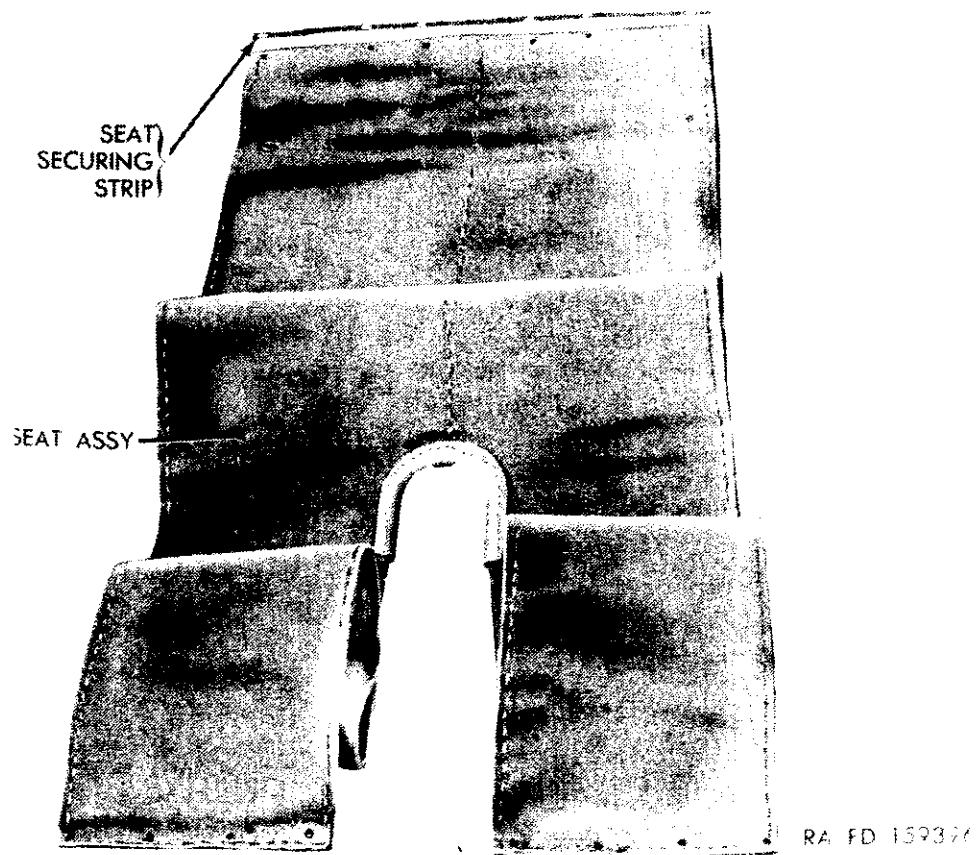
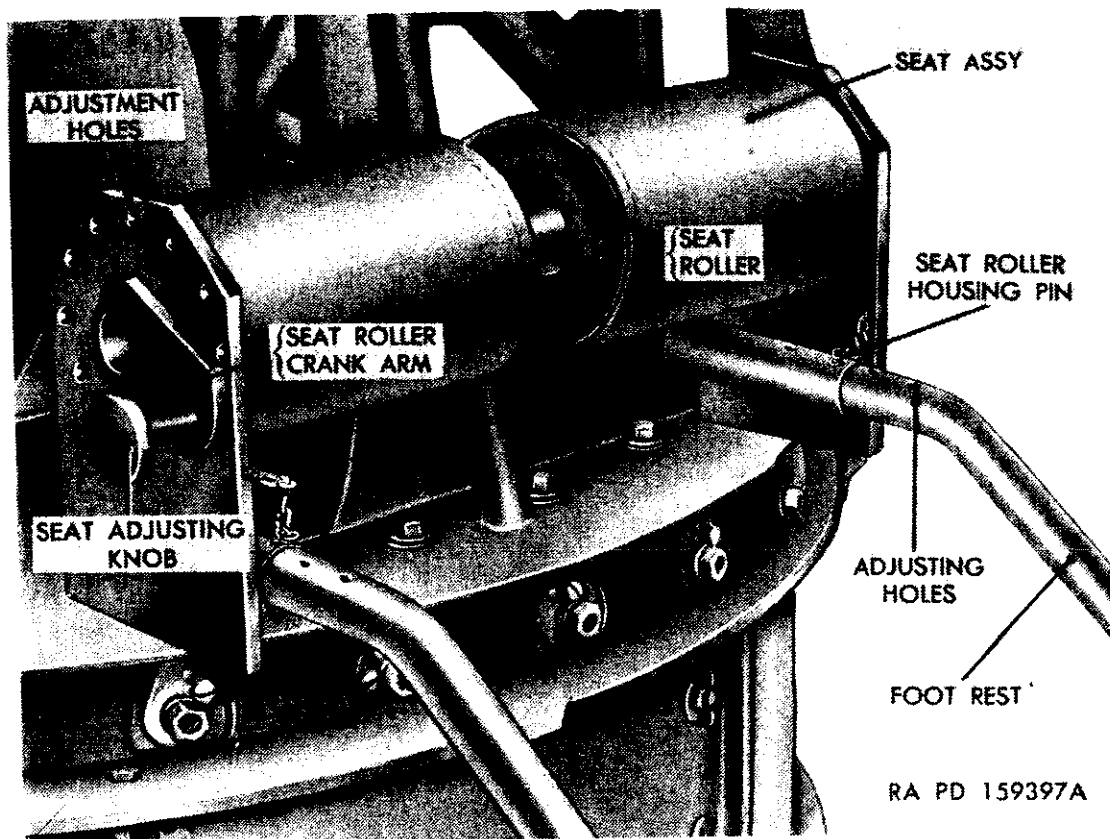

Figure 68. Seat assembly.
Figure 69. Seat and foot rest adjustments.
*a. Seat and Seat Roller Group.* Inspect seat assembly (fig. 68) for tears and general condition and replace if necessary. Adjust seat assembly (fig. 69) as follows:
- (1) Pull out the seat adjusting shaft knob which is on the seat roller crank arm.
- (2) Lock the seat roller by allowing the seat adjusting shaft knob to engage one of the 12 holes on the face of the seat roller housing.
b. *Foot Rest.* Adjust foot rest (fig. 69) as follows:
- (1) Remove the two seat roller housing pins (chained), which secure the foot rest, and move rest to the desired position.
- (2) Lock foot rest in place after adjustment by resetting the seat roller housing pins in the holes provided.